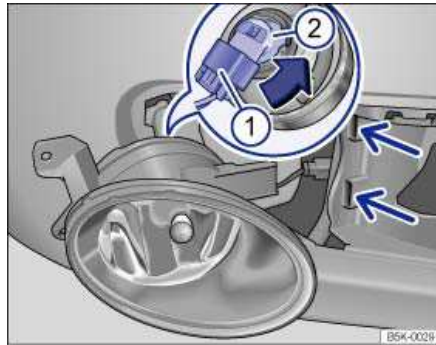

Fig. 207 Replacing light bulb in headlight.
| 5. | Release the connector ⇒ fig. 207 (1) and disconnect it. |